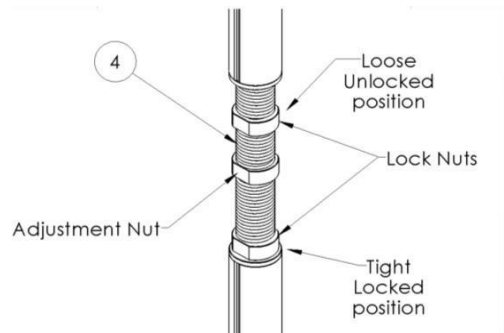

FIGURE 7
7. Using the adjustment Wrench, rotate the Adjustment Nut on THREADED ADJUSTMENT ASSEMBLY (# 4) in a **CLOCKWISE direction** to allow the pole to expand between the floor and the ceiling. Make sure the pole is perpendicular to the floor in all directions and then tighten the Lock Nuts as shown in Figure 7.